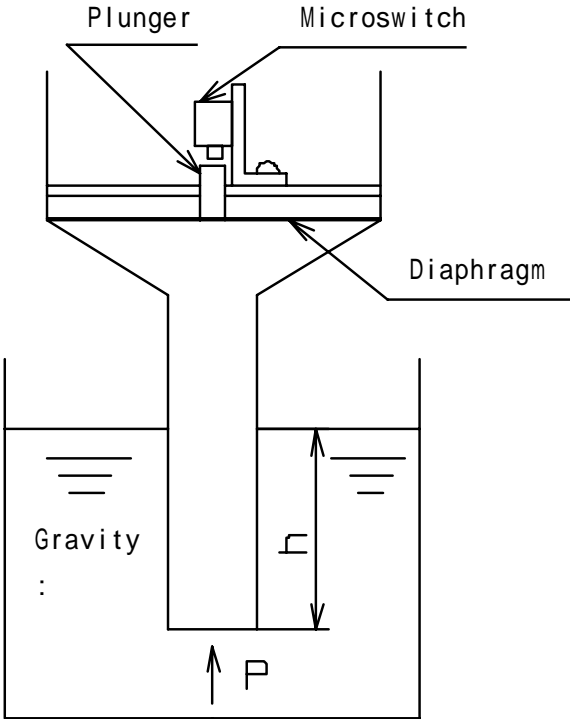

Fig. 2
When the sensor is connected to a detection pipe and mounted on a tank as shown in Fig 2, the pressure applied to the pipe end (P) is gained by $P = \rho gh$; The upward force applied to diaphragm is $P \times A$, where A is the pressure receiving area of diaphragm.